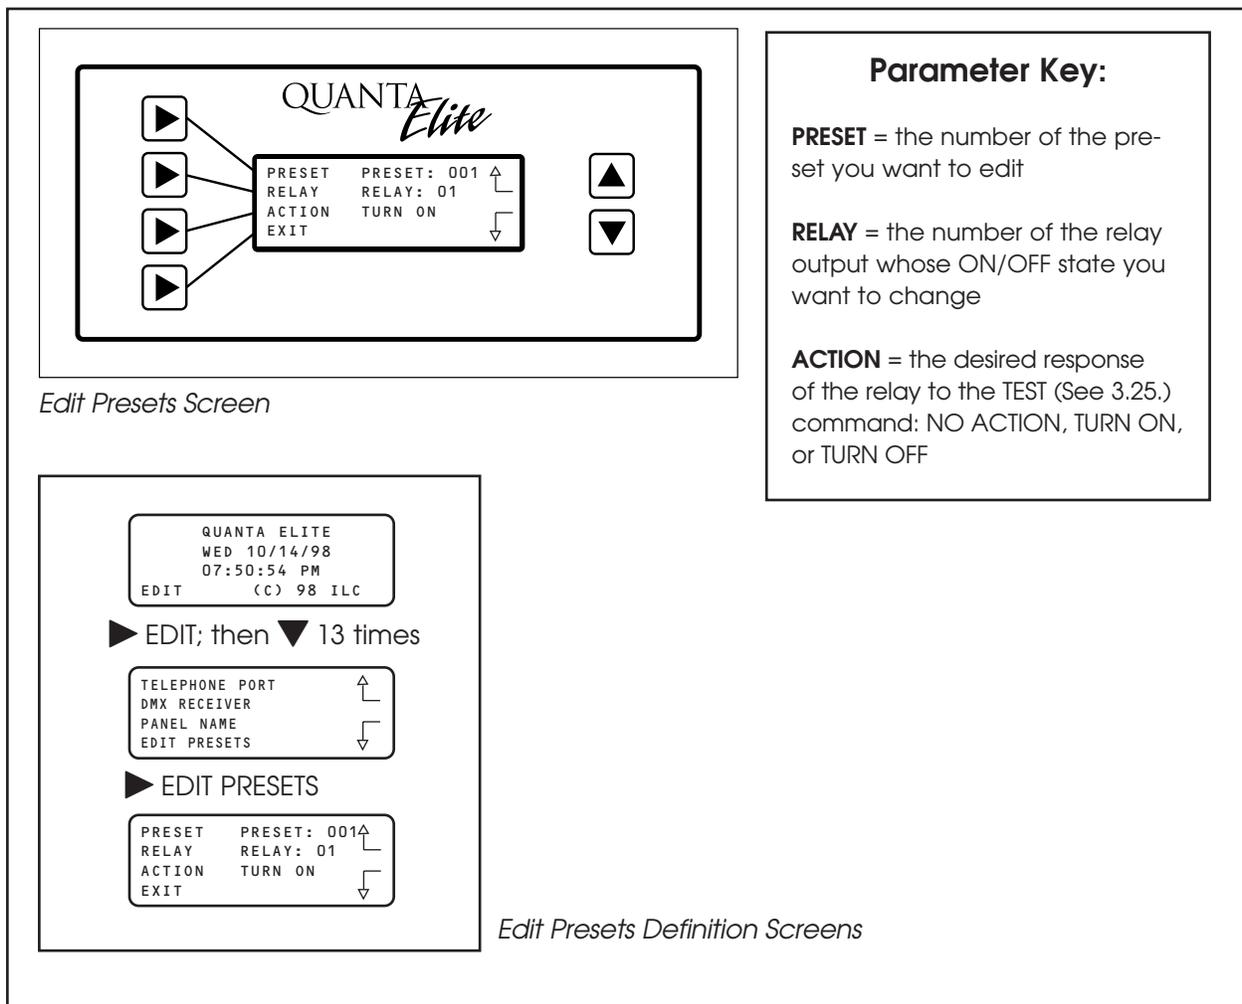

Figure 3.17
3. Then press ► EDIT PRESETS to access the Edit Presets screen. (See Figure 3.17.)